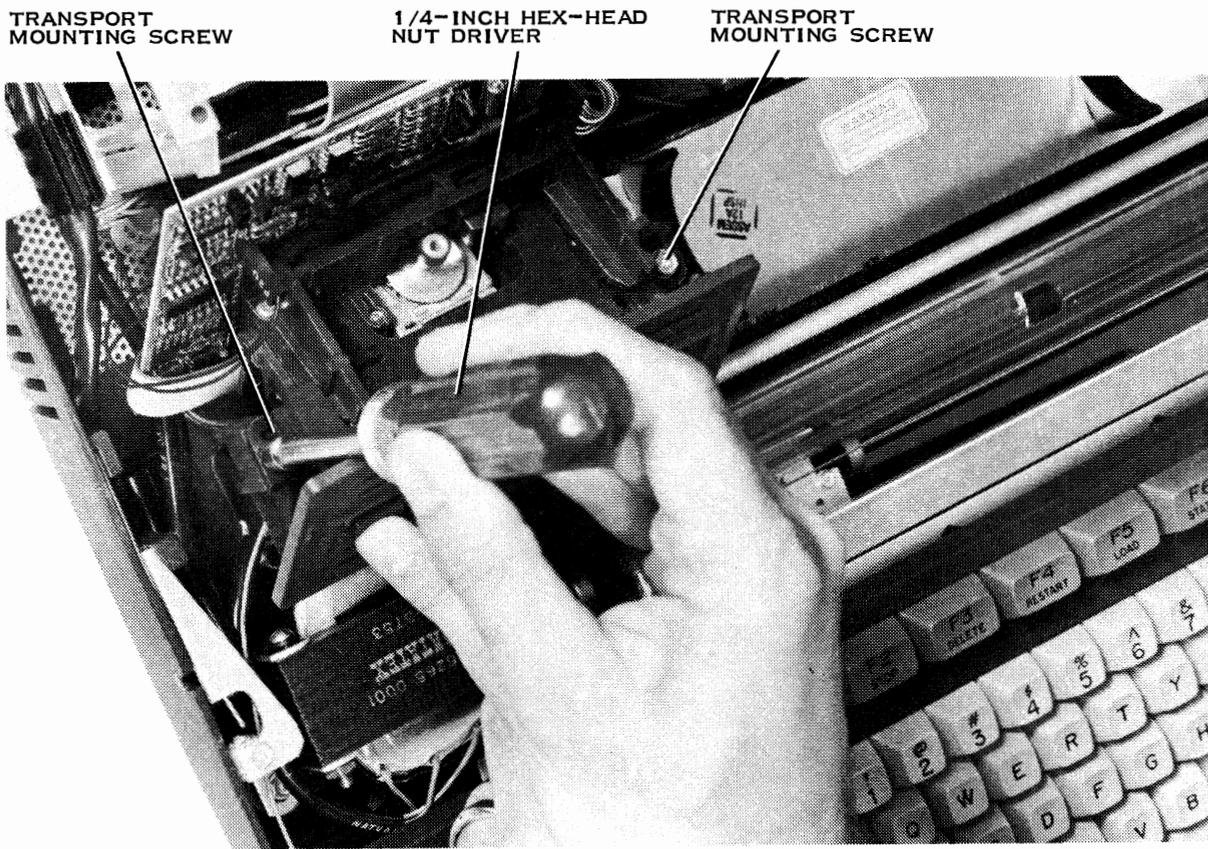

Figure 1-5. Tape Transport Mounting Screw Removal on Model 771 Intelligent Terminal System
6. Remove the four transport mounting screws (two per cartridge transport assembly) that secure the cartridge transport assemblies to their mounting brackets, using a 1/4-inch hex head nut driver (see figure 1-5).